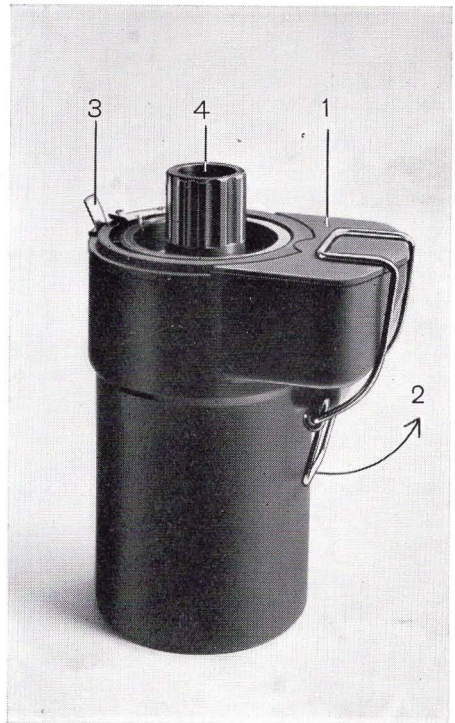

fig. 1
Take off cover (1) - fig. 1 - pulling out hook (2).
as in figure 1 and tighten with hook (2). Now the magazine finds itself a light tight compartment and we can proceed to transfer the film to the internal cylinder.